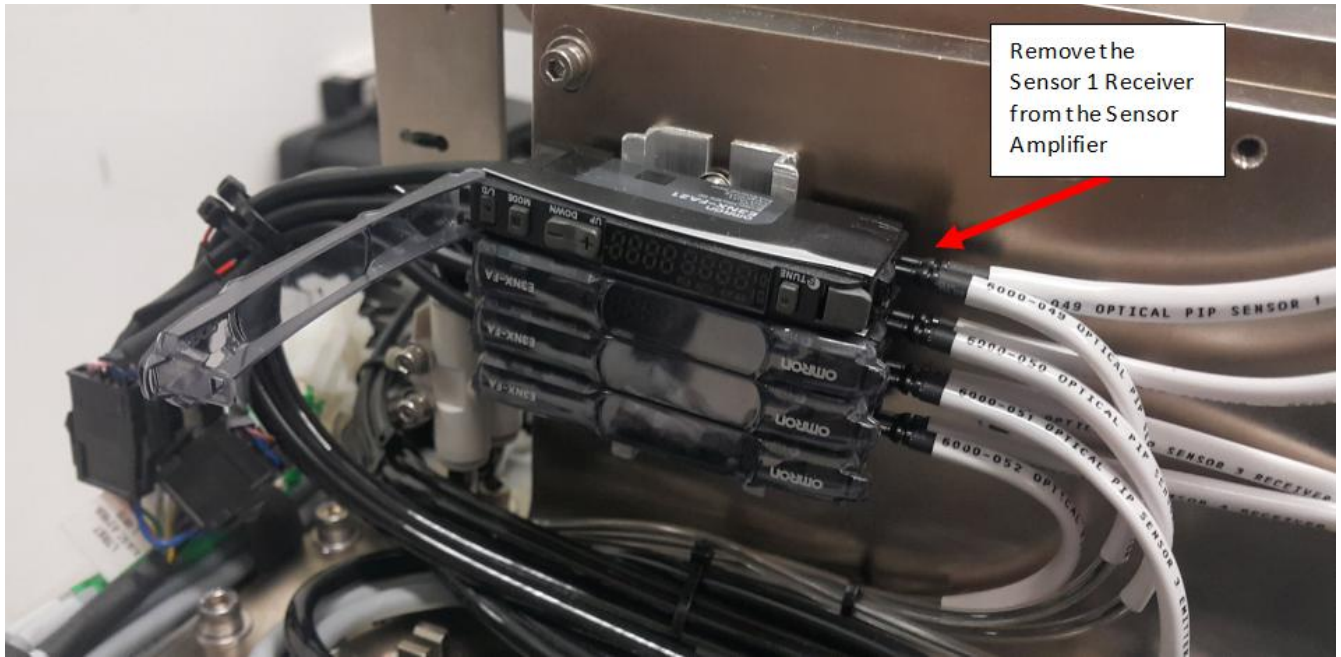

Figure 20 Sensor 1 Receiver (Amplifier)
3. Remove Sensor 1 receiver & refer the route from Figure 17 to Figure 20.